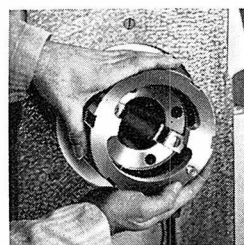

Figure 72C
4. Stop screw, shown in Figure 72C, is then screwed in adapter nut. This screw has a predetermined length for the purpose of eliminating excessive turning of the nut when mounting or removing arbors and adapters. It should be screwed in until the head is seated against the co-bored hole.